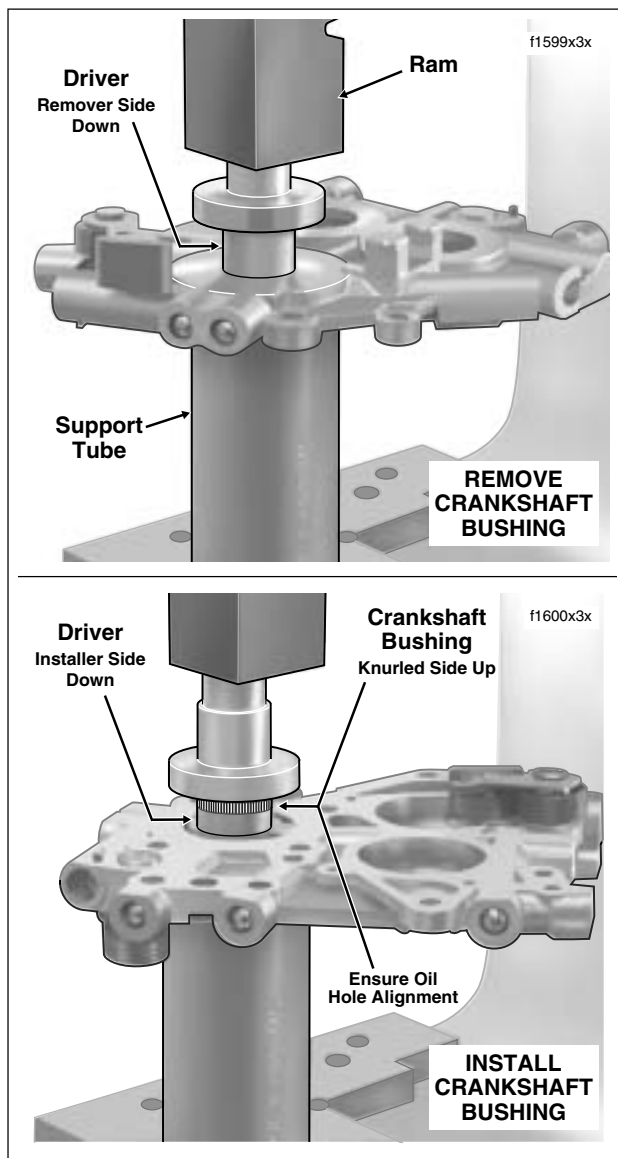

Figure 3-104. Remove/Install Crankshaft Bushing in Cam Support Plate
4. Insert remover side of driver into crankshaft bore so that shoulder on tool is seated on edge of bushing. See upper frame of Figure 3-104.
6. Insert installer side of driver into bushing. See lower frame of Figure 3-104.